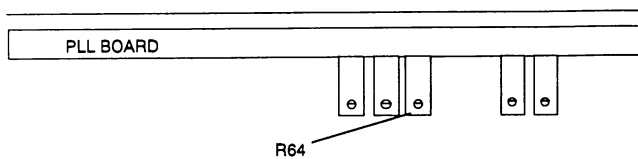

Figure 4-11. R64 Locator
2. Slide the cover back. Adjust the PLL board's R64 (see figure 4-11) until the DVM reads $0 \pm 2mV_{dc}$ of sine offset. Slide the cover back on.